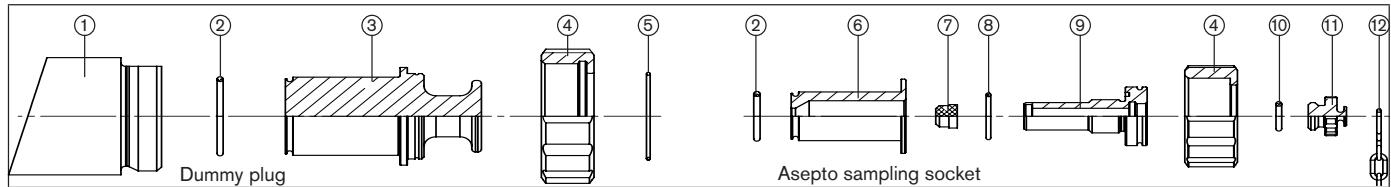

Fig. 2: Assembly of dummy plug and Asepto sampling socket Type BBS-11
- During operation and/or existing pressure, only the sampling cap (see "Fig. 2", sketch on the far right with chain) may be opened. It can be opened with just a few turns.